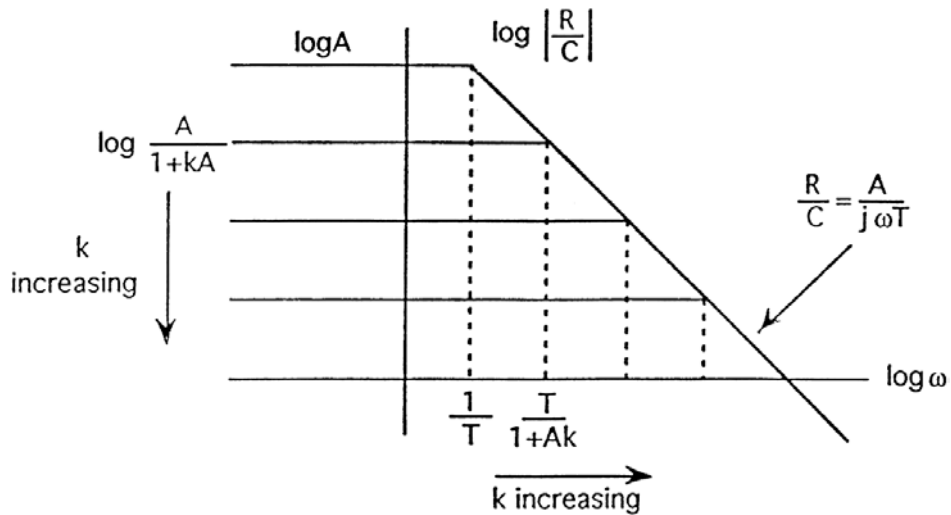

Figure 20
This phenomenon can also be clearly seen in the Bode diagram (Fig. 20). The high frequency behavior can be found by letting $s = j\omega$ in (27) and then letting ω become very large. Then $\frac{R}{C} \Rightarrow \frac{A}{j\omega T}$ which is independent of k .